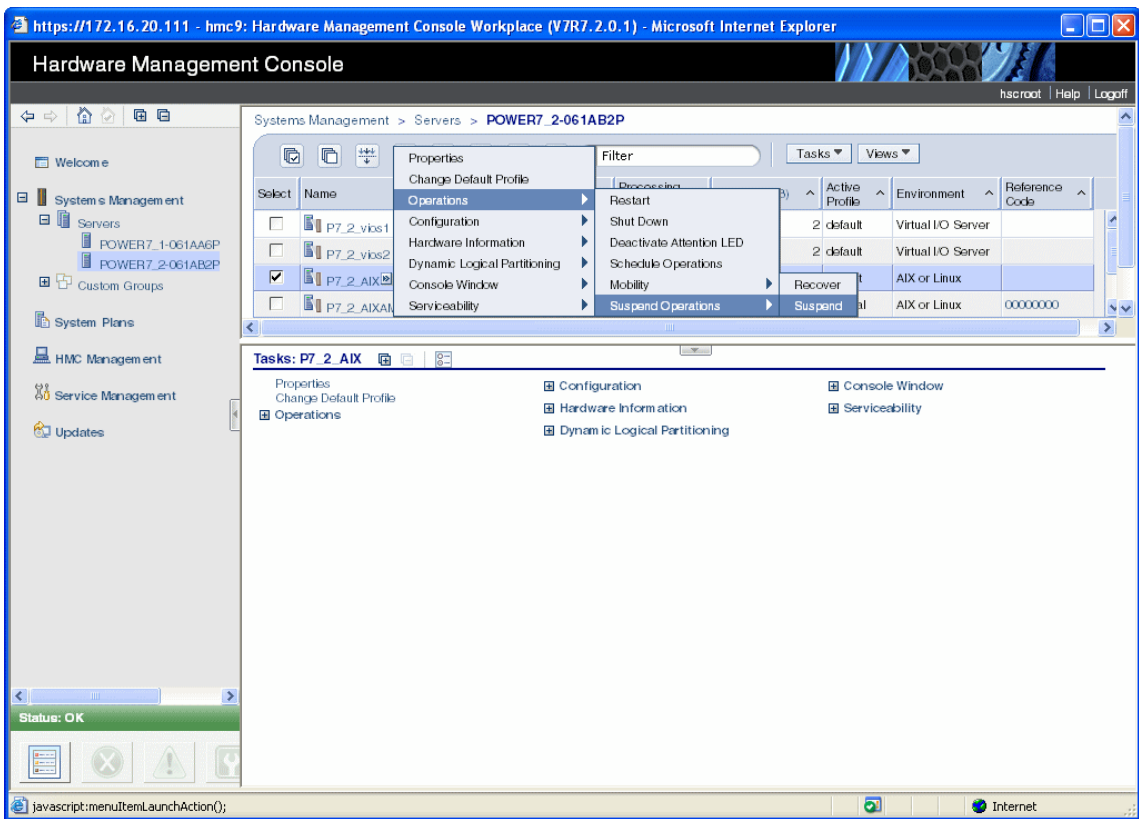

Figure 17-27 Partition suspend menu
1. On the HMC, select the partition you want the suspend validation to be performed on, then select **Operations** → **Suspend Operations** → **Suspend** as shown in Figure 17-27.
1. On the HMC, select the partition you want to suspend, then select **Operations** → **Suspend Operations** → **Suspend** as shown in Figure 17-27 on page 660.